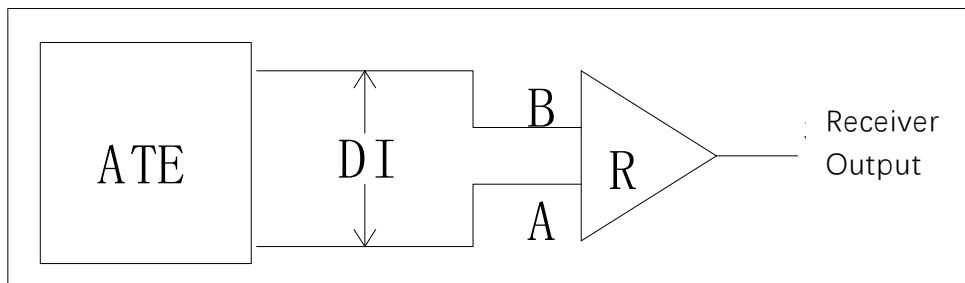

Figure 4 Receiver Propagation Delay Test Circuit
- (4) Test circuit is shown in Figure 4